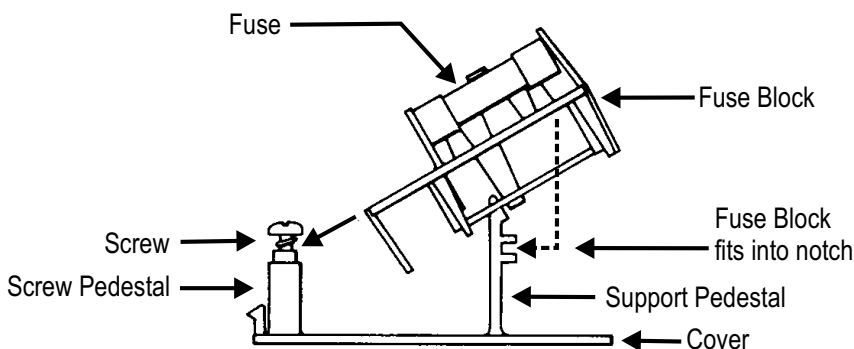

Figure 50. Changing fuse types
3. On the back of the cover, loosen the Phillips screw two turns, then remove the fuse block by sliding up, then away from the screw and lifting from pedestal at the other end (refer to Figure 50).